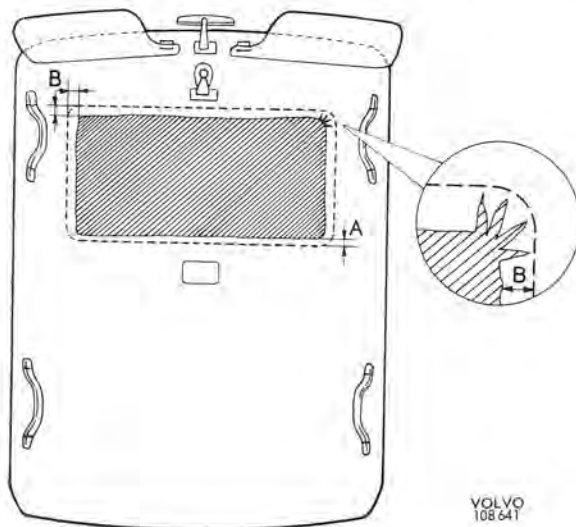

Fig. 8-55. holding headlining for sunroof. Lined area cut out.
6. Cut a hole in the headlining to correspond to the sunroof as shown in Fig. 8-55.